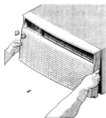

FIG. 1
### Front Installation - Some Side Air Discharge Models (FIG. 1)
- Install front retaining screw(s) at the bottom of the front (Fig. 1), or behind the filter handle (Fig. 2).
- Some models, push the vent control handle to the OFF position. Lift the filter straight up and out (Figure 1).